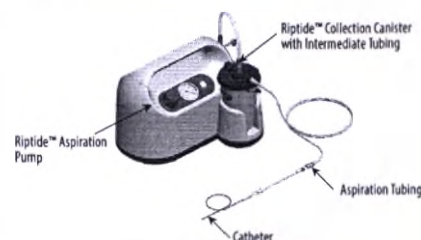

Figure 1: Riptide™ Aspiration System Setup Diagram
1. Refer to Figure 1 (above) for the correct arrangement of devices for proper setup of the Riptide™ Aspiration System.